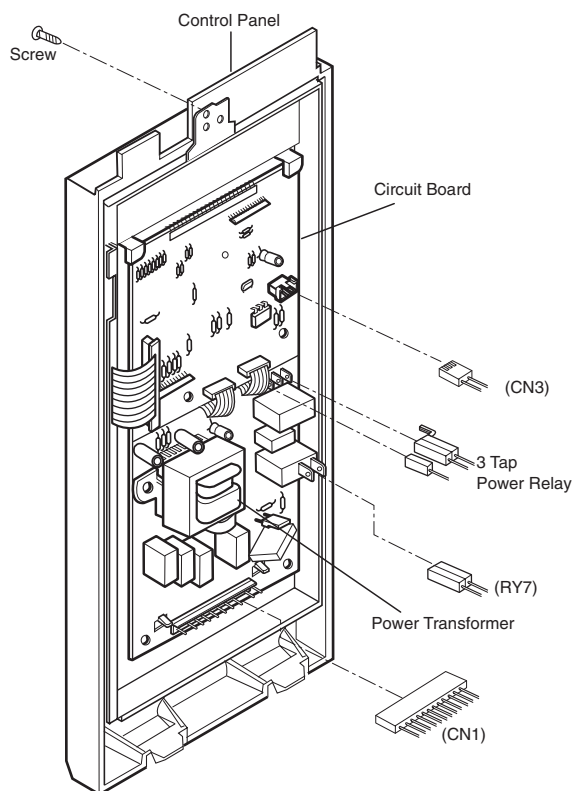

Figure 1
A. REMOVING POWER AND CONTROL CIRCUIT BOARD (Figures 1, 2 and 3)
- (1) Remove a screw securing the control panel assembly to the oven cavity.
- (2) Remove the control panel with pushing it upward.
- (3) Remove the connectors (CN1, CN3) and wire leads (3 Tap Power Relay, RY7) from the circuit board.